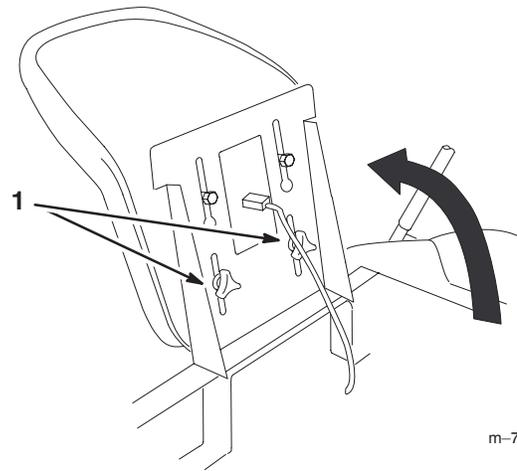

Figure 11
1. Raise the seat and loosen the adjustment knobs enough to move the seat (Fig. 11).